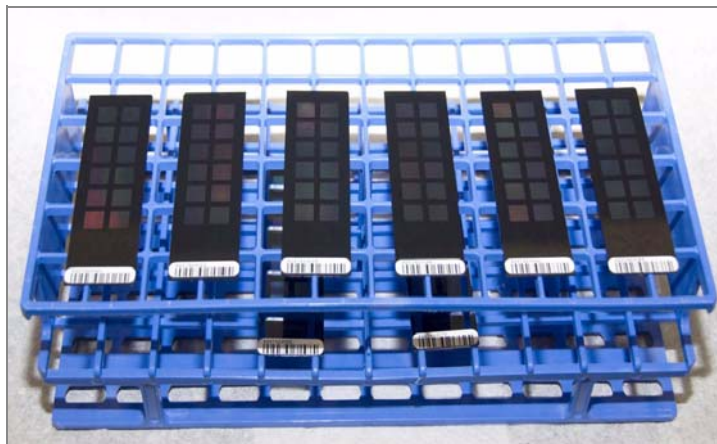

Figure 179 Placing BeadChips on Tube Rack
- a. Place the tube rack with the BeadChips (Figure 179) into the desiccator. Check the vacuum pressure and make sure that the valve is securely attached.
- b. Put the eight BeadChips on the tube rack as shown in Figure 179, with six BeadChips on top of the rack and two BeadChips on the bottom. The barcode ends should be towards you, and the BeadChips should be completely horizontal.
- a. Place the tube rack with the first 8 BeadChips (Figure 179) into the desiccator. Check the vacuum pressure and make sure that the valve is securely attached.
27. Place BeadChips on the tube rack as shown in Figure 179 until there are six BeadChips on top of the rack and two BeadChips on the bottom. The barcode ends should be towards you, and the BeadChips should be completely horizontal.
- a. Place the tube rack with the second set of 8 BeadChips (Figure 179) into the desiccator. Check the vacuum pressure and make sure that the valve is securely attached.
32. Place BeadChips on the tube rack as shown in Figure 179 until there are six BeadChips on top of the rack and two BeadChips on the bottom. The barcode ends should be towards you, and the BeadChips should be completely horizontal.
33. Place the tube rack with the **third set** of 8 BeadChips (Figure 179) into the desiccator. Check the vacuum pressure and make sure that the valve is securely attached.